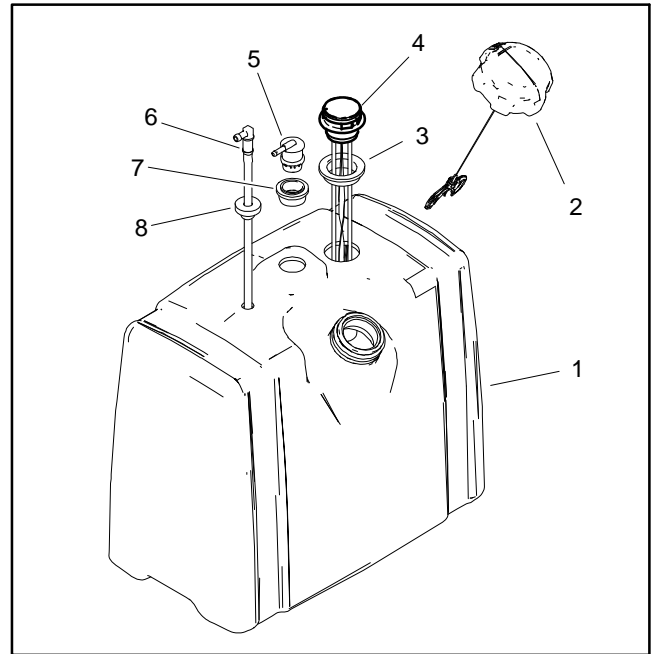

Figure 8
5. Remove components from fuel tank as needed (Fig. 8).
1. Install all removed components to fuel tank (Fig. 8).